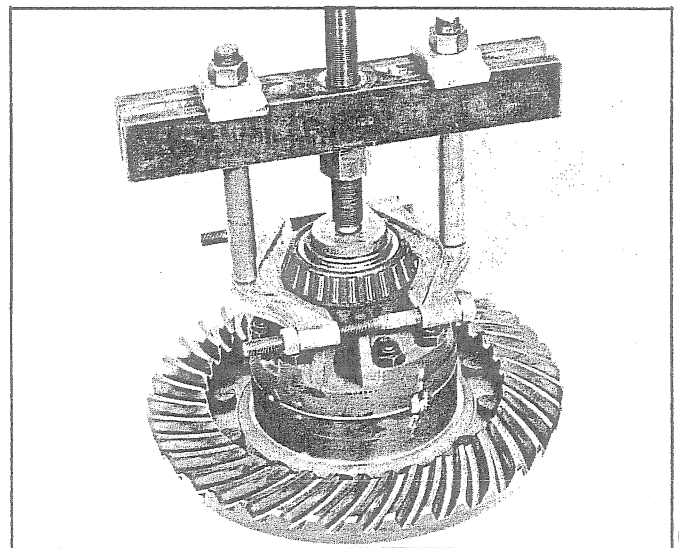

Fig. 54 - Removing Differential Carrier Bearing
11. Use a suitable bearing splitter and puller arrangement and remove differential bearings as shown in Fig. 54.